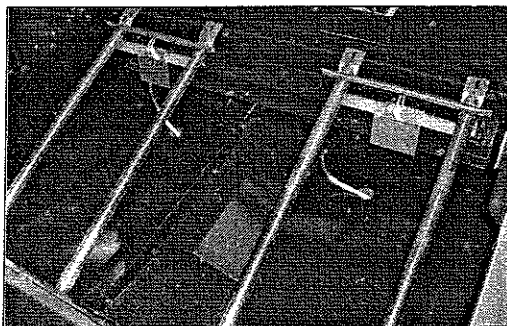

Fig 8
8. Angle the main burner up, and set it in the firebox. (See Fig. 8)